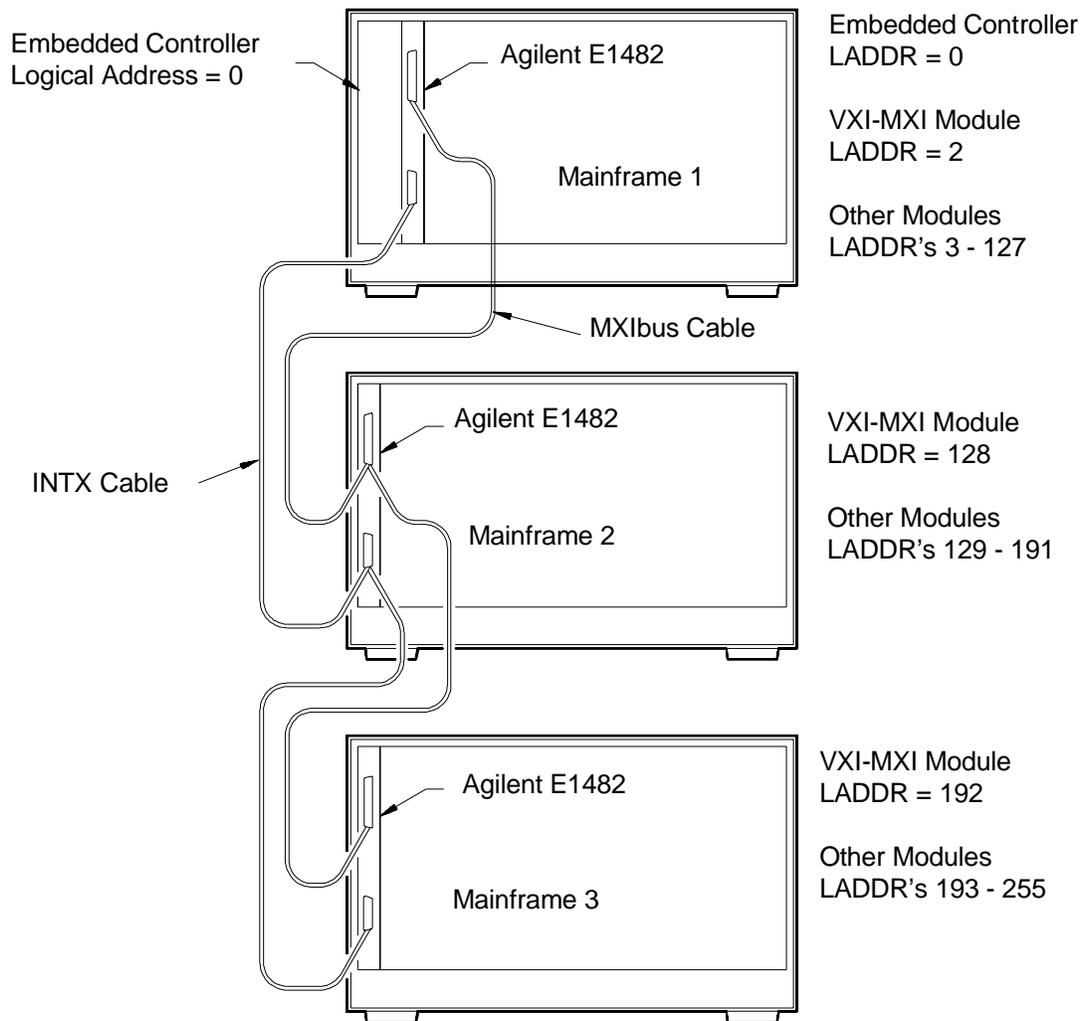

Figure 3-19. Embedded V743, 3-Frame
- 3-Frame - Agilent V743 (Figure 3-19)